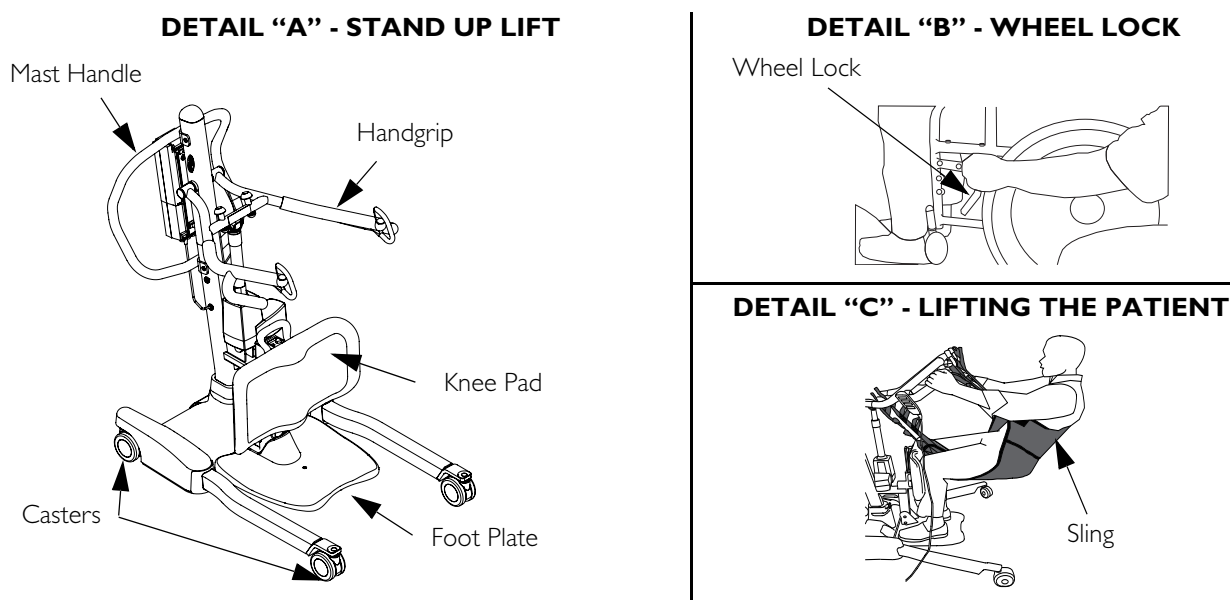

FIGURE 4.2 Lifting the Patient
NOTE: For this procedure, refer to FIGURE 4.2 on page 17.
1. Instruct the patient to hold onto the hand grips on both sides of the stand up lift (Detail "A" of FIGURE 4.2).
4. If transferring from a wheelchair, lock the wheel locks on the wheelchair (Detail “B” of FIGURE 4.2).
5. Press the UP arrow button on the hand control to raise the patient above the surface (bed, wheelchair or commode). The patient’s weight will be fully supported by the stand up lift (Detail “C” of FIGURE 4.2).